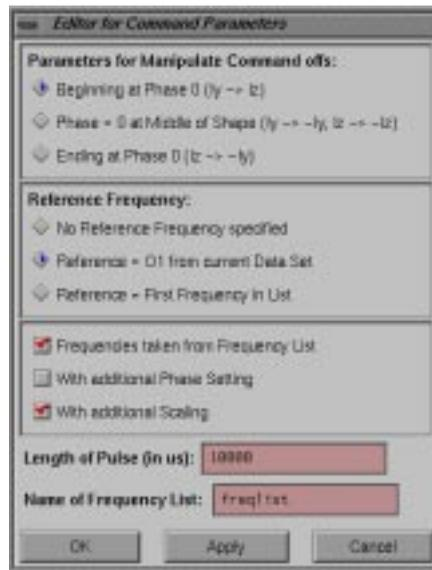

Figure 3.15 Editor for offs Command.
- Under the **Manipulate Menu** select **Phase Modulation acc. to Offset Freq.** (Figure 3.15):